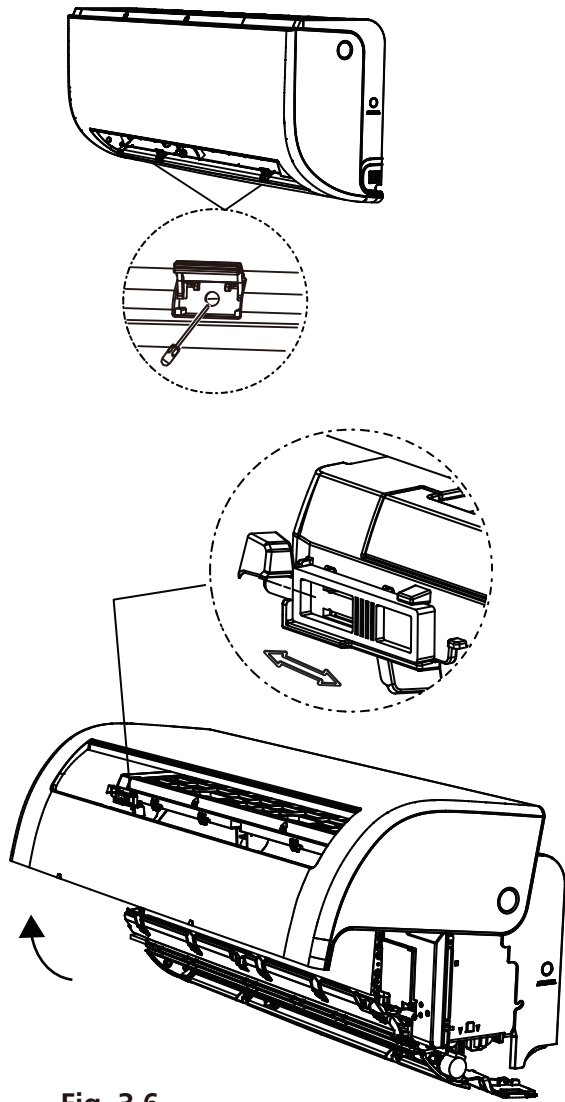

Fig. 3.6
Firstly, unscrew the two screws showed in the picture below, then open the panel, and fix the position of the panel by the latch(see Fig.3.6).
2. Open front panel of the indoor unit by loosening the screws according to picture Fig.3.6, which provide big space for wiring connection.